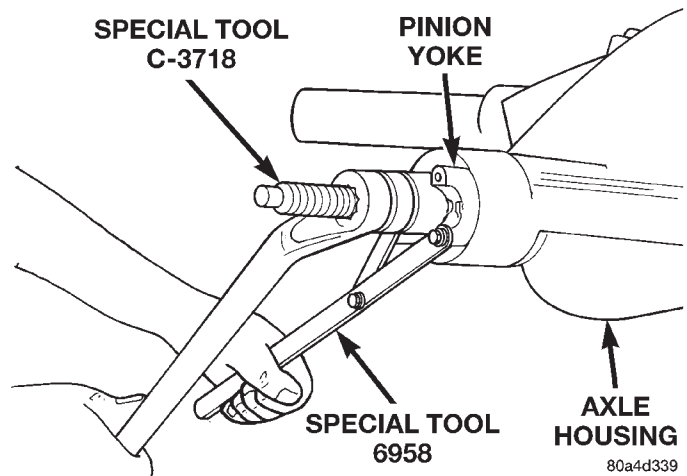

Fig. 19 Pinion Yoke Installation
(4) Install yoke with Installer C-3718 and holder 6958 (Fig. 19).
(5) If the original pinion bearings are being used, install differential assembly and axle shafts, if necessary.